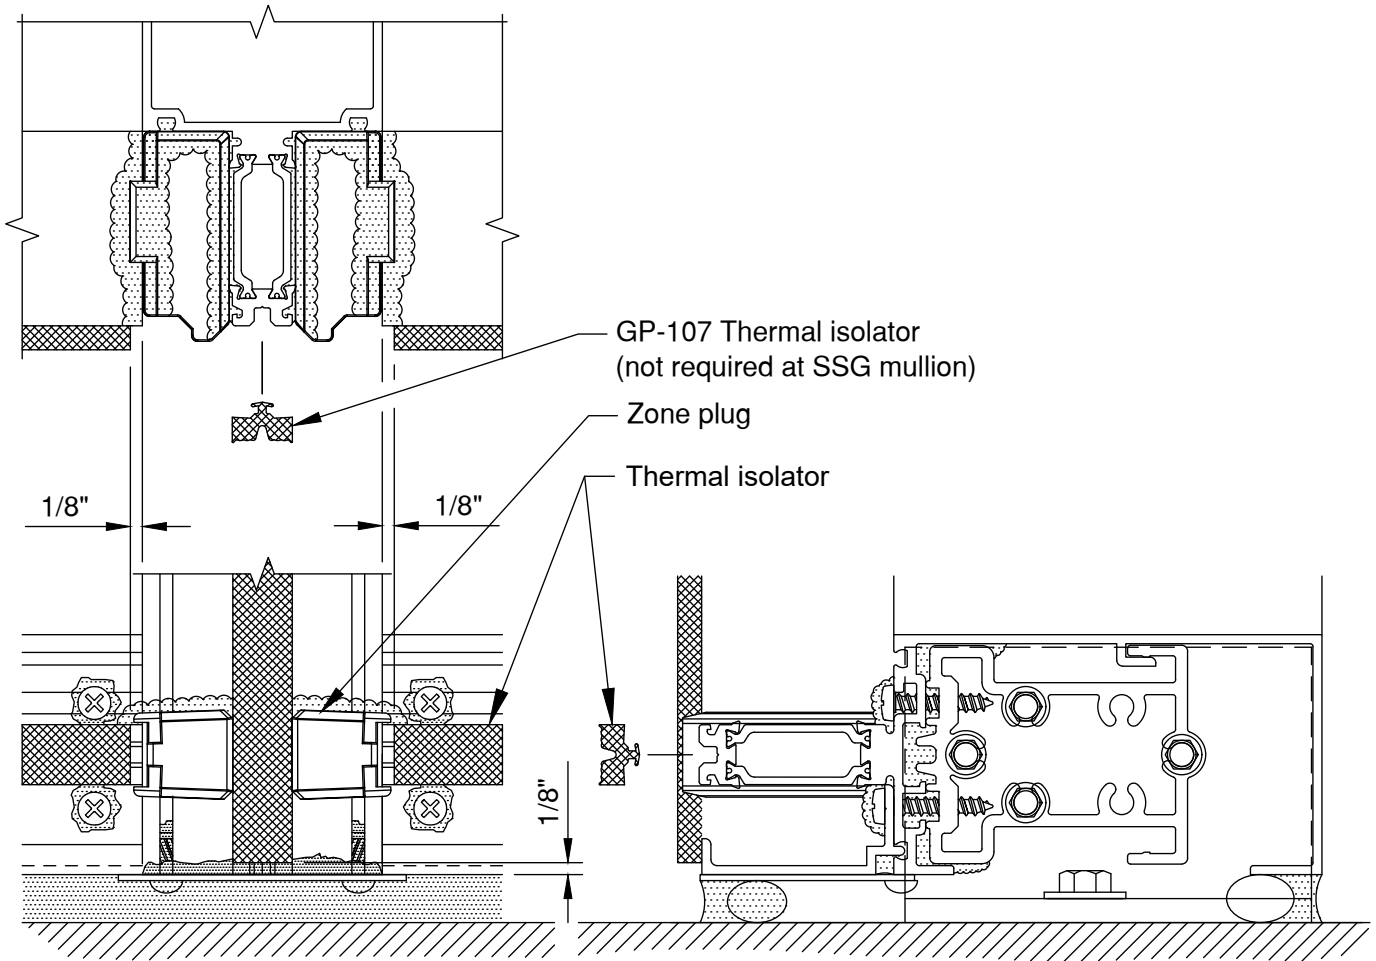

FIGURE 12
- 3.2 Install thermal spacer into groove on face of mullion tongues. Run through at vertical splice joints. Cut short 1/8" from each end of the mullion. **SEE FIGURE 12.**